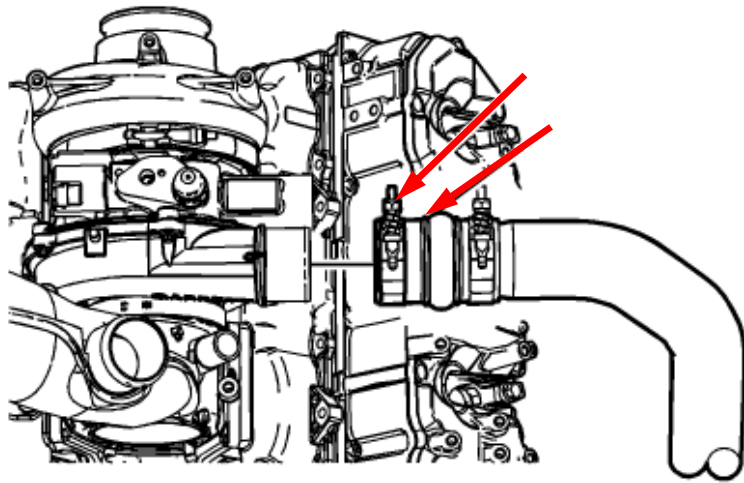

Figure 3 - Charge Pipe Removal
4. To swap the driver side manifold, first loosen the charge pipe clamp at the turbocharger shown in *Figure 3*.